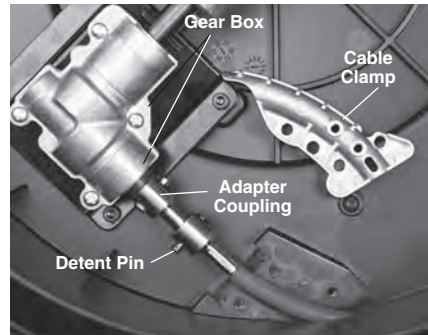

Figure 15 – Drain Cleaner Housing Opened
- Open the housing (*Figure 15*).
- Remove cable clamp fasteners, cable clamp (*Figure 15/16*).